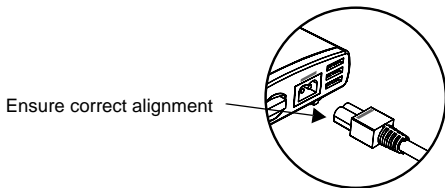

Figure 2 Connecting the Inverter and DC Cable
1. Plug the DC cable (Xantrex part number: 808-7141) into the DC cable port on the XPower inverter. Observe correct polarity. See Figure 2.